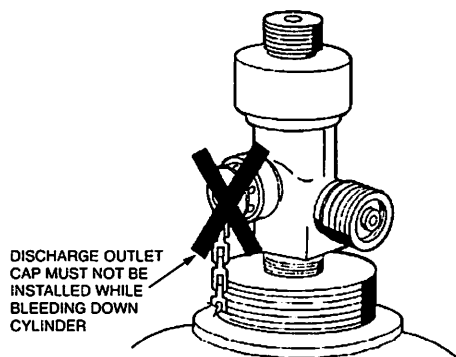

FIGURE 5
- a. Make certain discharge cap IS NOT on valve outlet. See Figure 5.